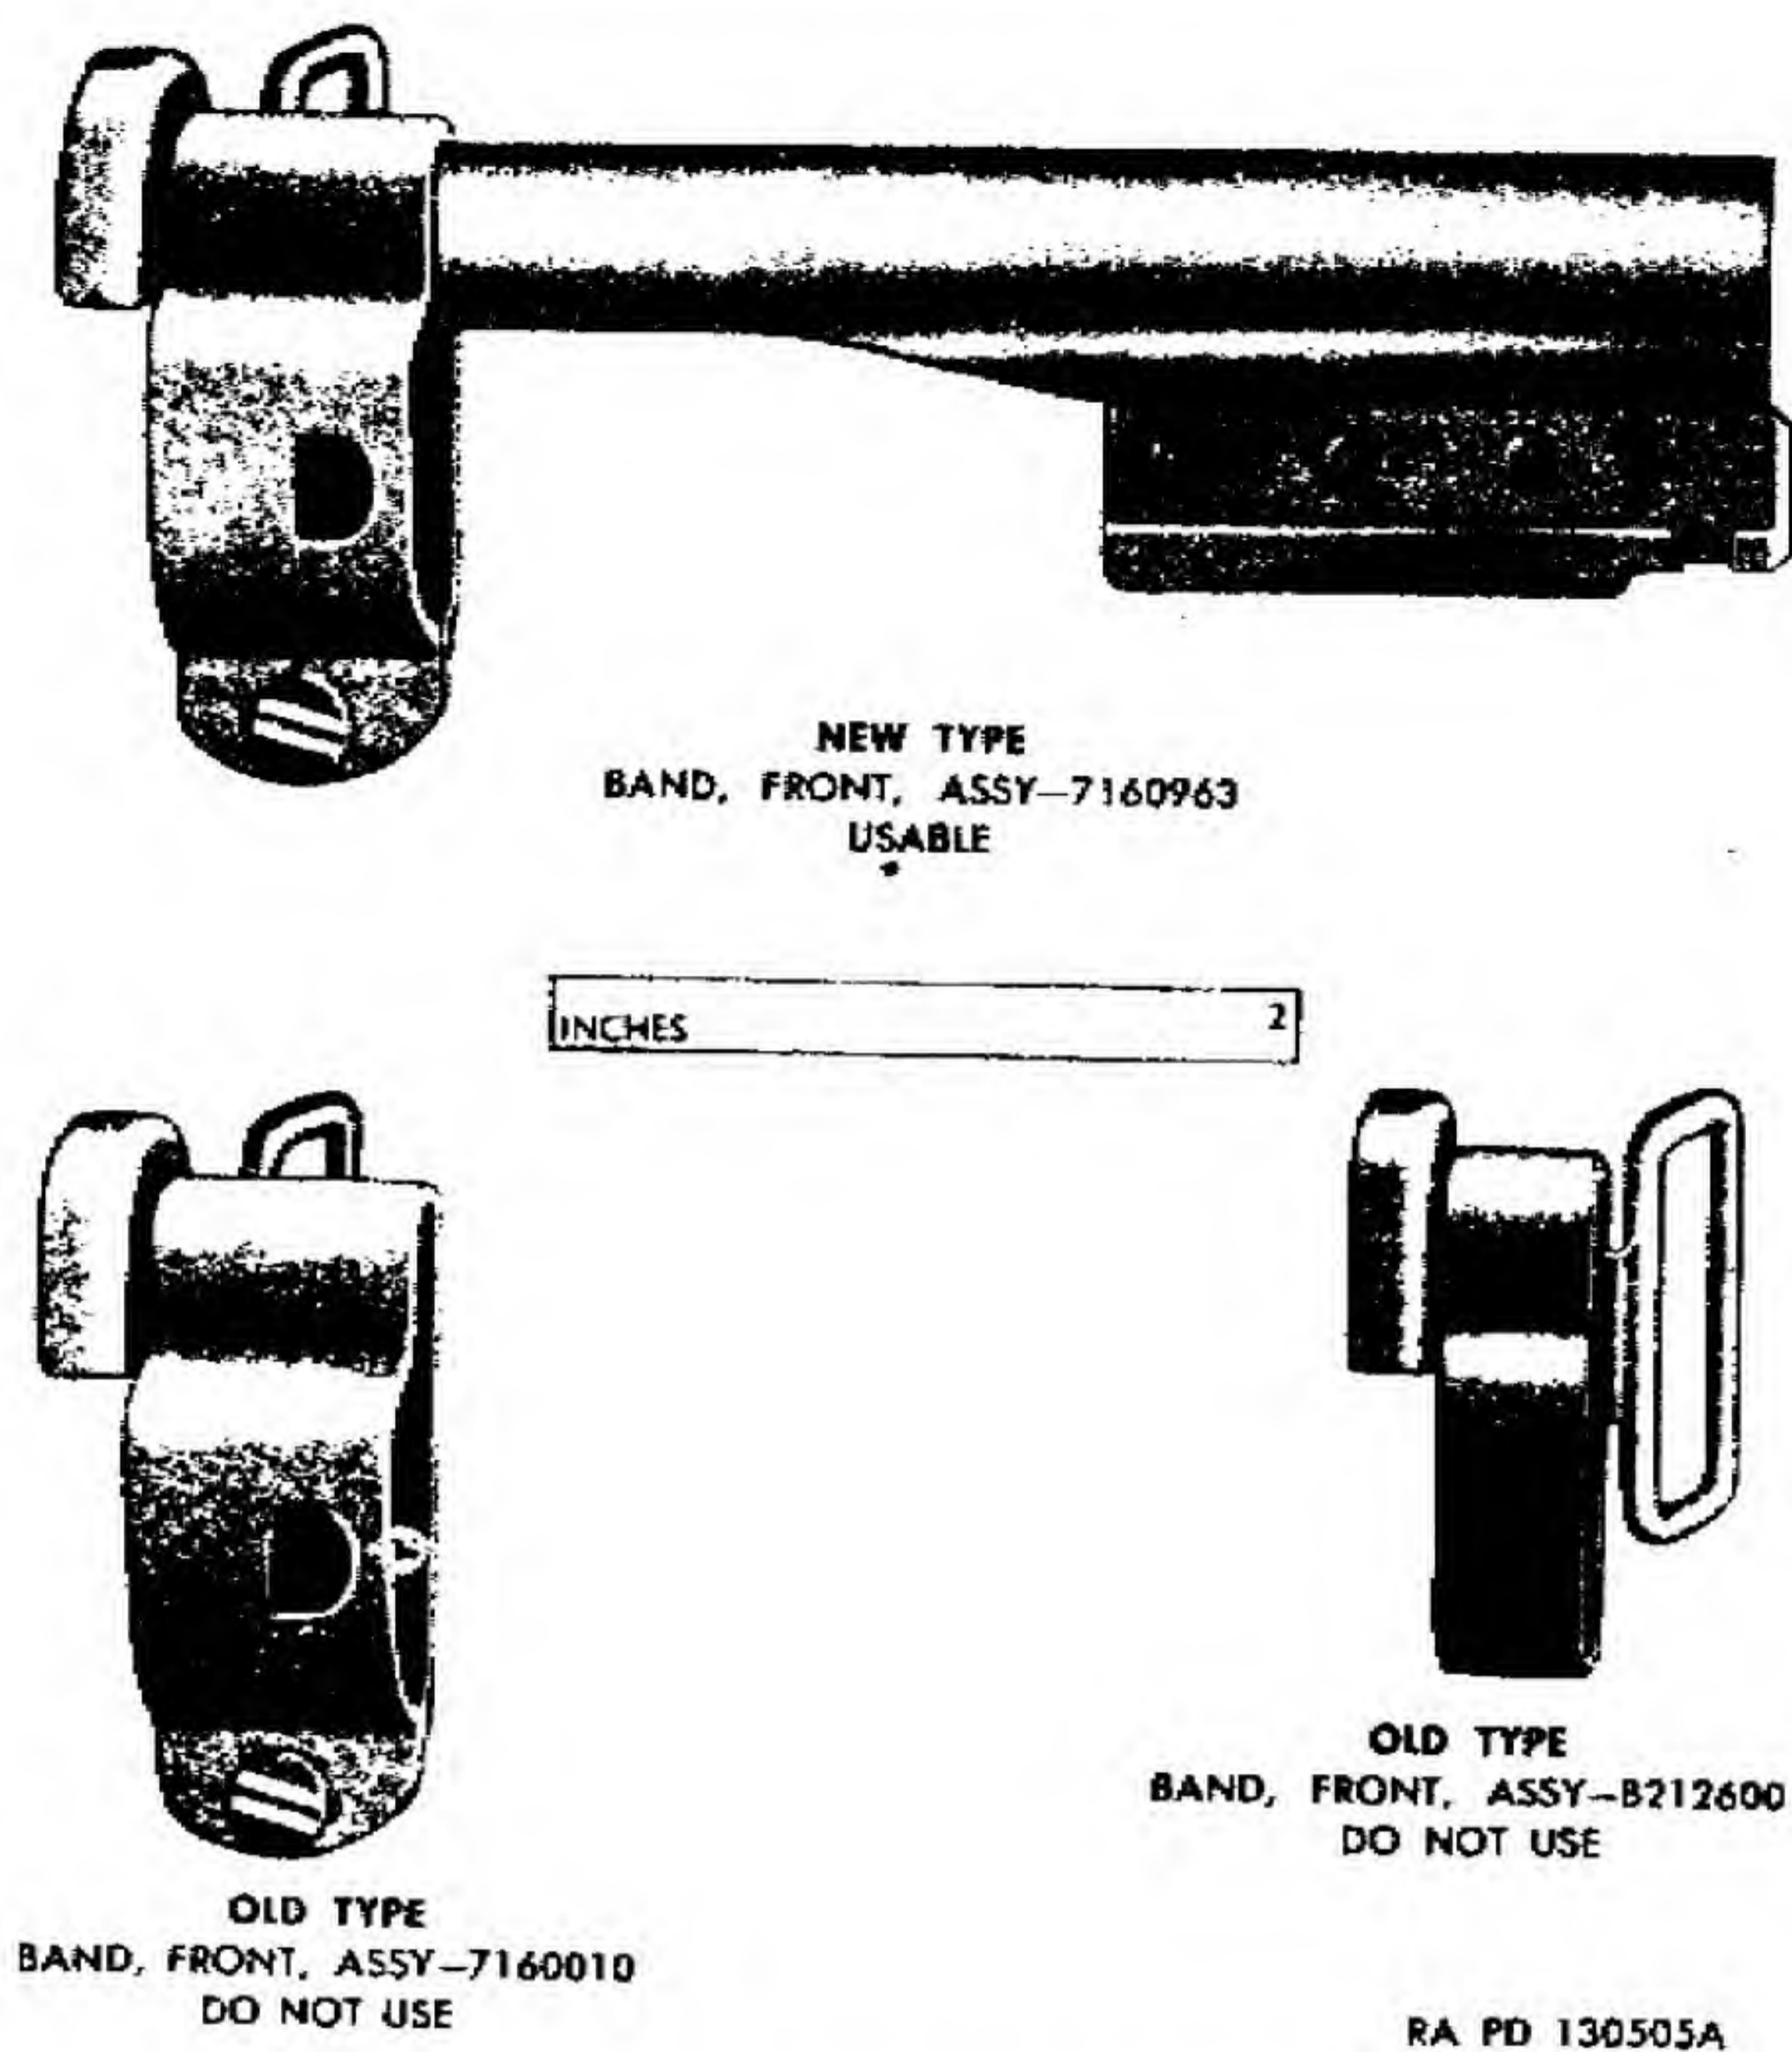

Figure 82. Front band assemblies.
- (j) Check to see that the new type front band assembly (fig. 82) is used and that the rivets are tight. Visually inspect bayonet stud on front band to assure that it is in good condition. Modification Work Order ORD B28-W5 specifies that the old type front band assemblies must be replaced with the new type (fig. 82) and describes the procedure. Check shape of front band swivel to assure that it swivels properly.